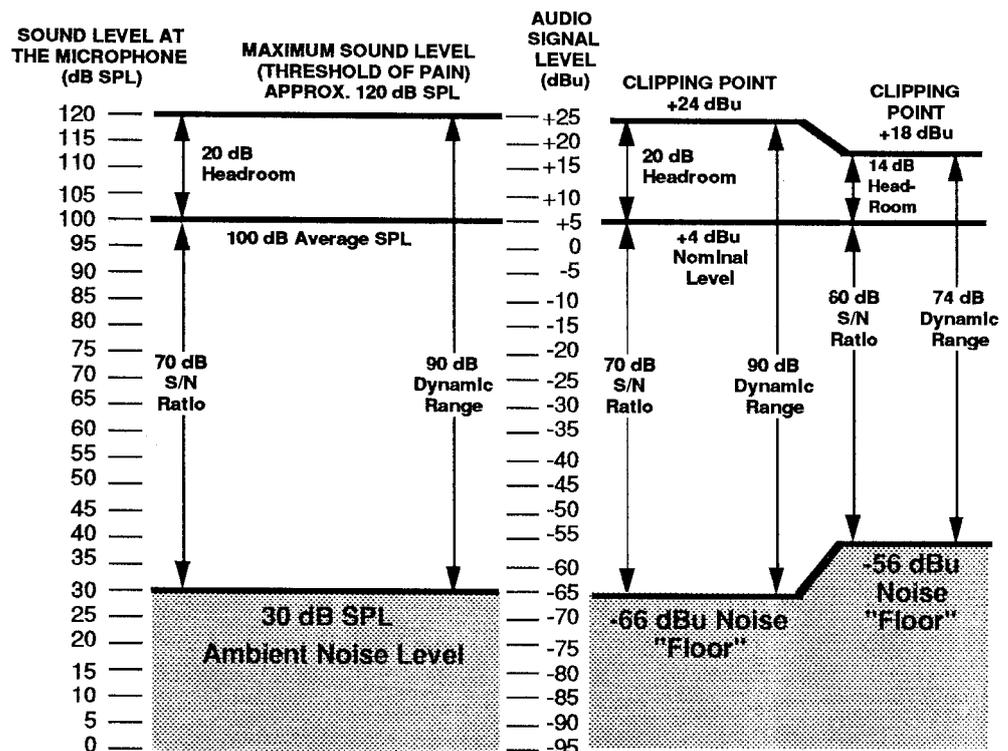

Figure 4-1. Dynamic range and headroom
Figure 4-1 illustrates headroom and dynamic range in a typical sound system, both in acoustical and electrical terms. The S/N Ratio shown in this illustration refers to *Signal-To-Noise Ratio*, which represents the difference between the nominal level and the noise floor. It is shown so you can see how this specification is related to dynamic range and headroom. There is, however, one tricky aspect to the relationship between S/N, headroom and dynamic range: you can't always add the S/N ratio to the headroom and come up with the dynamic range.
- 2) Since the band has not changed its act, we know the program still has an acoustic dynamic range of 90 dB, as shown in Figure 4-1. It is apparent that 16 dB of the program will be "lost" in the sound system (90 dB - 74 dB = 16 dB).